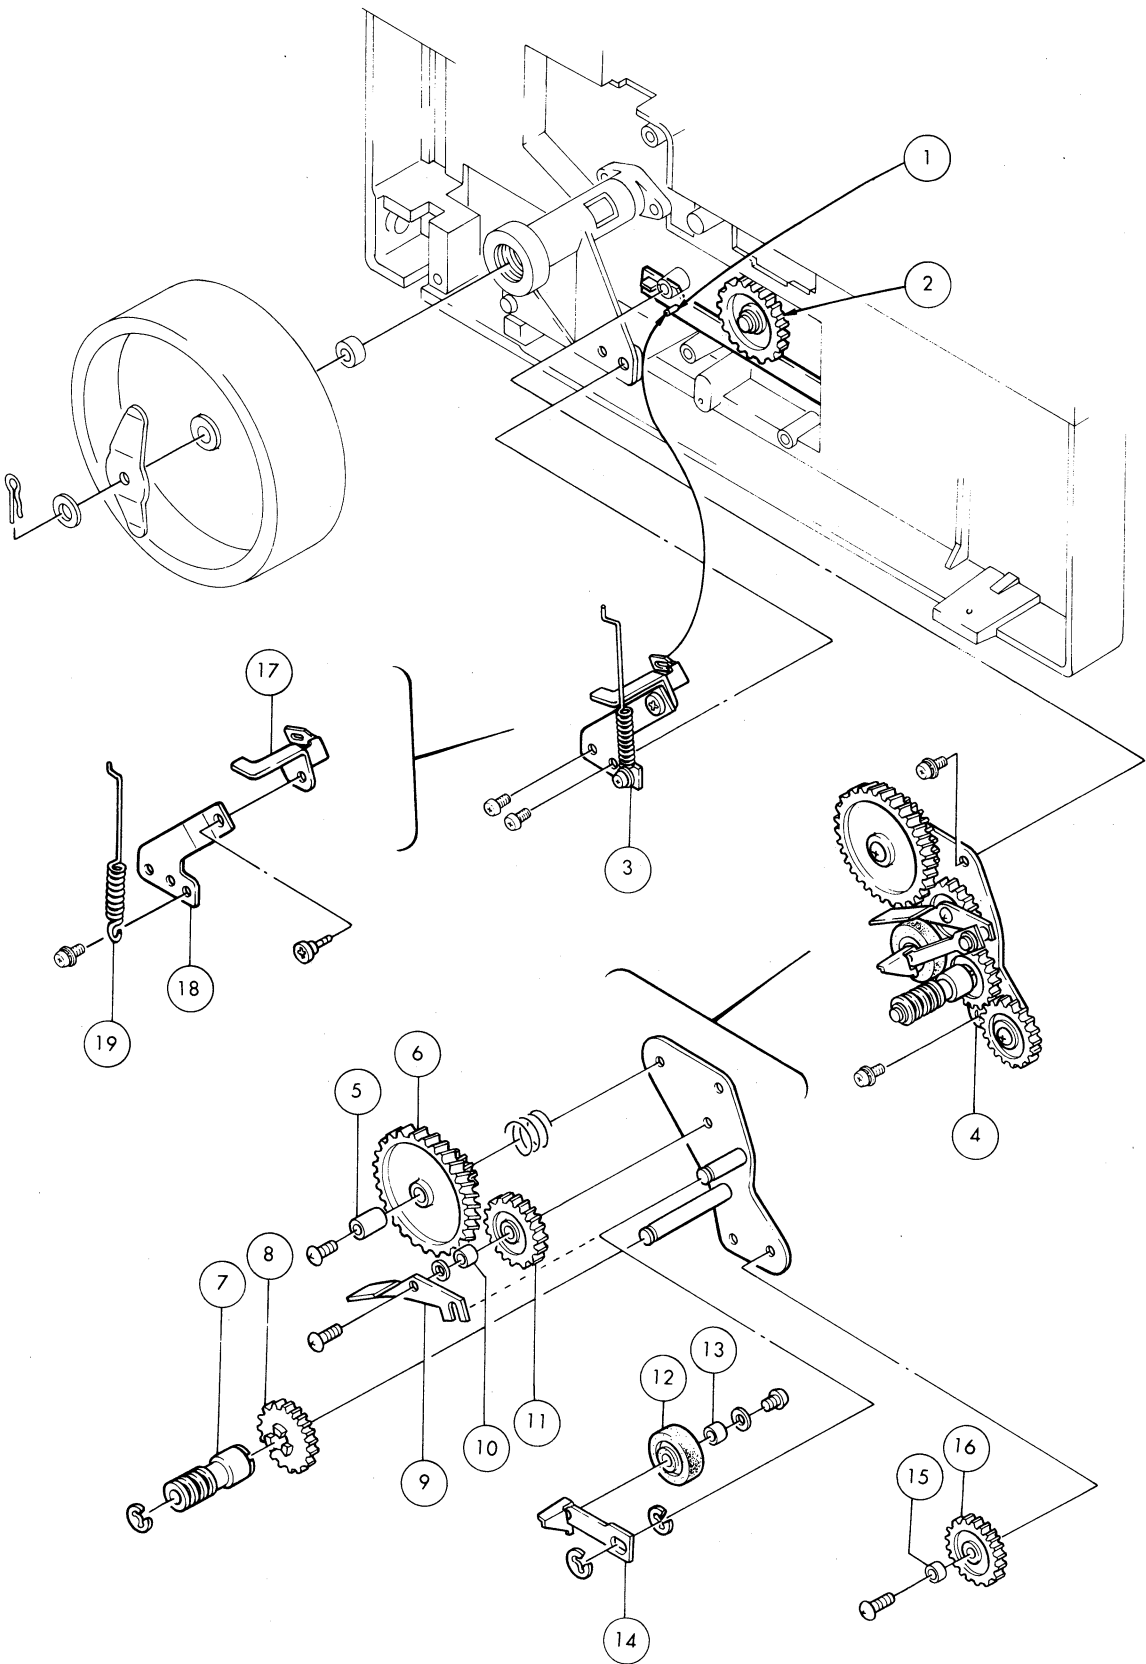

Fig 29
A. Disassembly Refer to Fig.29.
1. Detach (3)(4) from the base frame (Refer to page 37).
2. For disassembling the rest, refer to Fig.29.